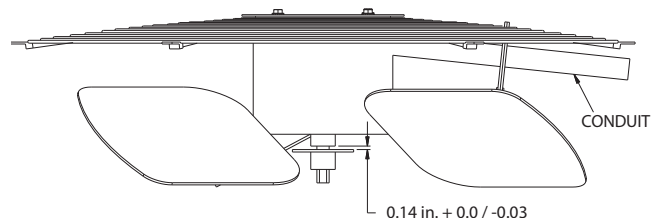

Fig. 30 — Condenser Fan Adjustment
4. Adjust fan height as shown in Fig. 30.